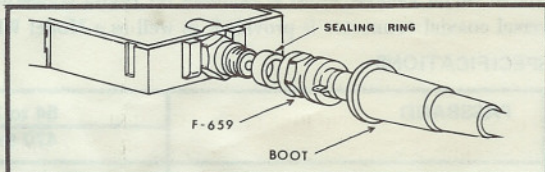

FIGURE 4 WEATHERBOOT CONNECTION
8. Slide the weatherboot sealing ring onto the F-61 fitting of the MUV-382, then thread the cable connector onto the fitting. See Figure 4.